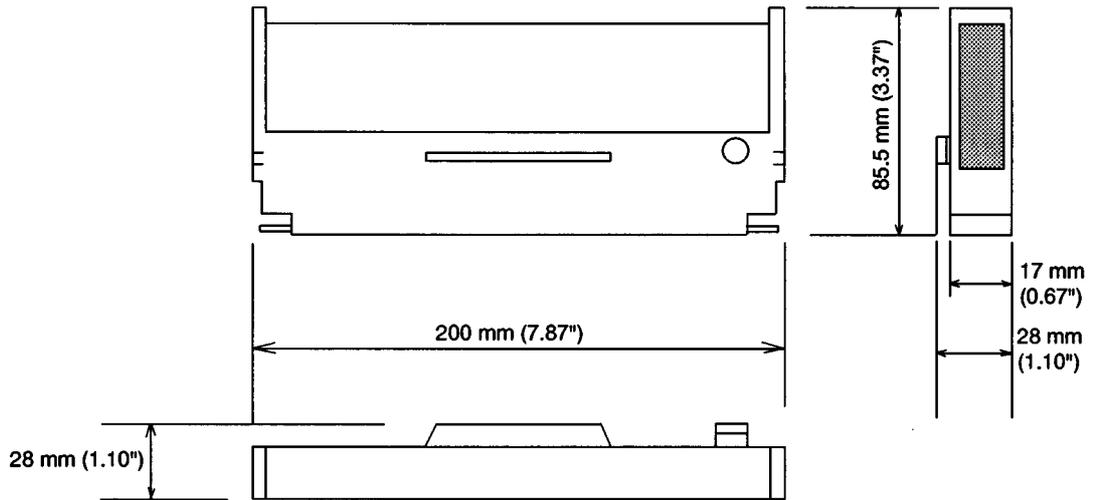

Figure 1.3.1 Ribbon Cassette Overall Dimensions
- 3) Ribbon cassette overall dimensions: (refer to Figure 1.3.1)